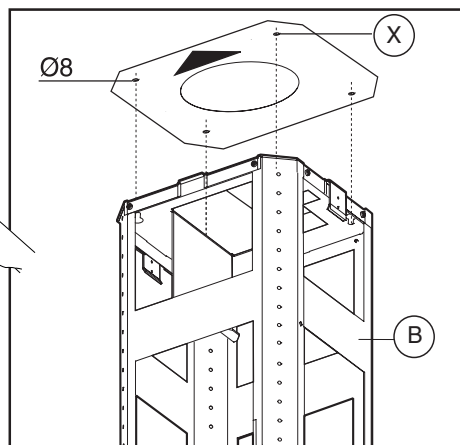

Fig.3
- Position hole template on the ceiling paying attention that the arrow is positioned on the same side as the appliance controls (Fig.3).